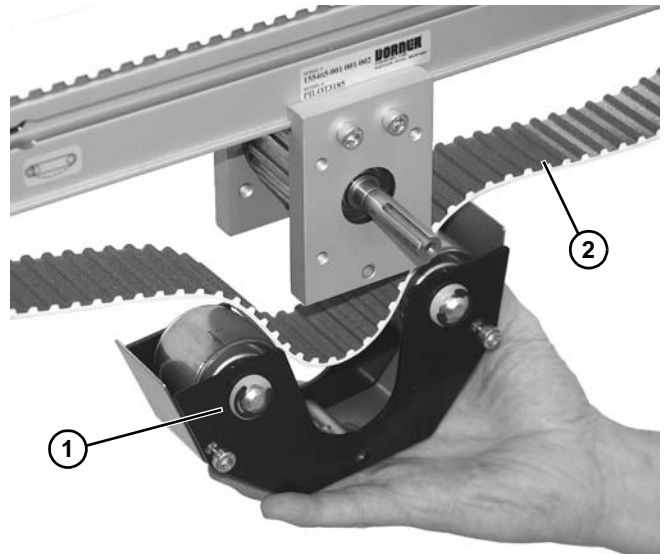

Figure 90
9. Raise mid drive assembly (**Figure 90, item 1**) onto belt (**Figure 90, item 2**).